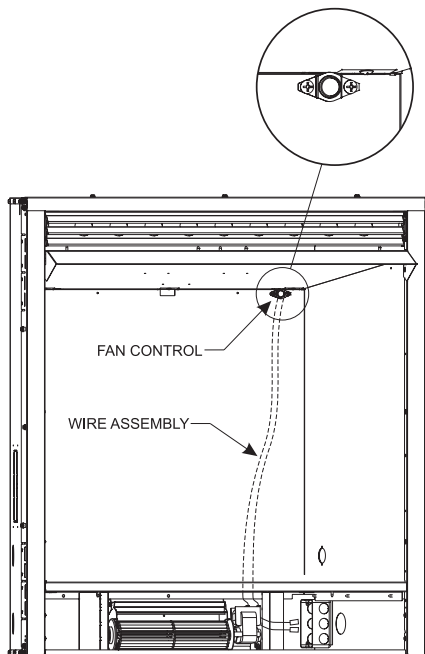

Figure 25
- Next, find the fan control switch and wire assembly. Feed the wires through the hole at the top of the firebox, and secure the fan control switch with the two screws provided. See Figure 25.
- The fan control wires will slide down between the firebox and outer wrap near the blower assembly. See Figure 25.